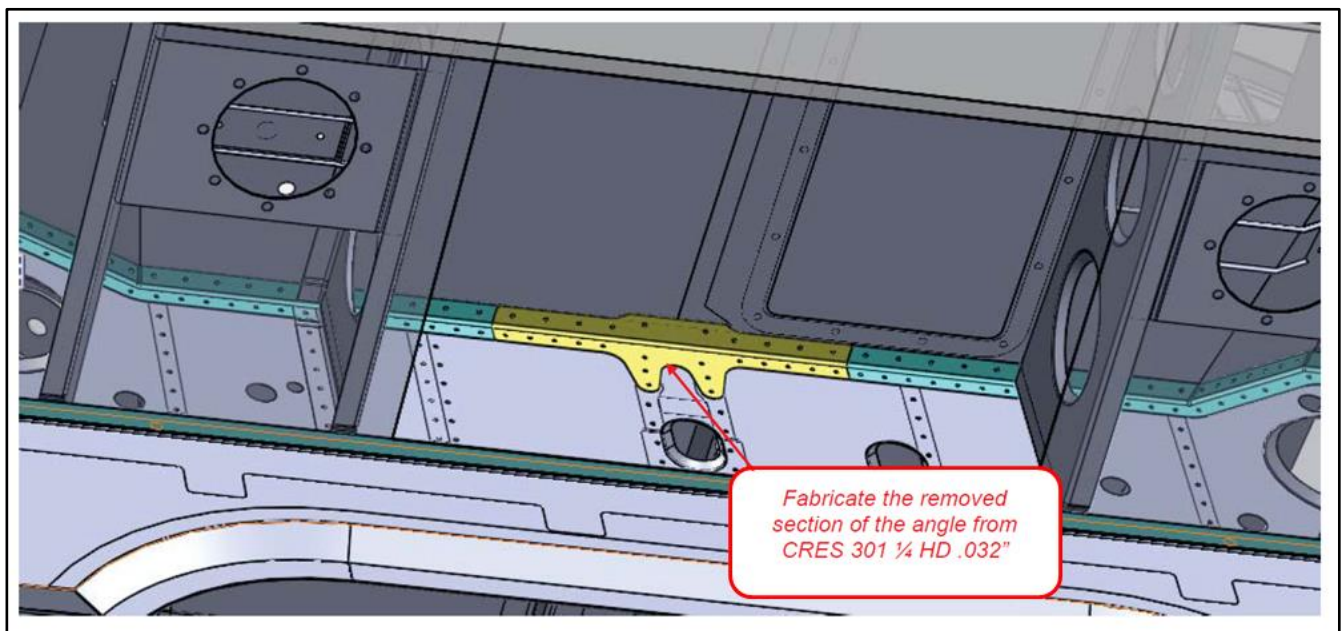

Figure 6 - Beam Assy STA4010.0 to STA4460.0 – Replacement procedures
9. Splice new center section of upper angle 109-0329-33-107 as shown in Figure 6. (Supplies Ref.9)